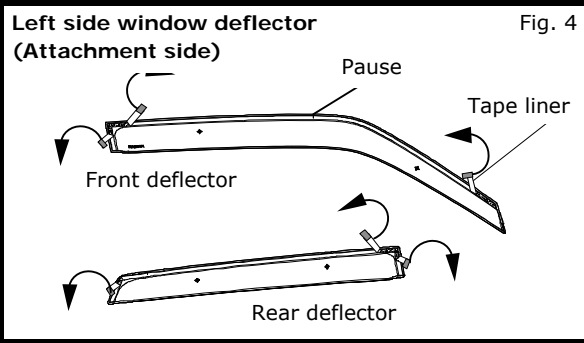

Fig. 4
- 7) Fold tape liners onto deflector front surface and secure with masking tape to ensure that tape liners are accessible. See Fig. 4.